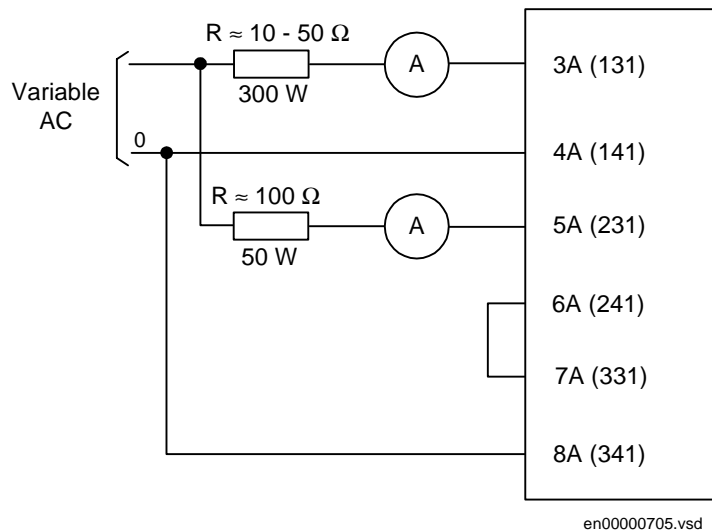

Figure 4: Test set-up for checking the undercurrent level of the pole-disagreement protection.
Figure 4 shows a recommended test set-up for testing the undercurrent level of the pole-disagreement protection. The adjustable resistor sets to a lower value when the current ratio between the undercurrent level and the overcurrent level is large, otherwise the adjustable resistor sets to a higher value.
1. Connect the test set according to figure 4, energize a current in phase IL2 and IL3 equal to 200% of $I_{>}$.